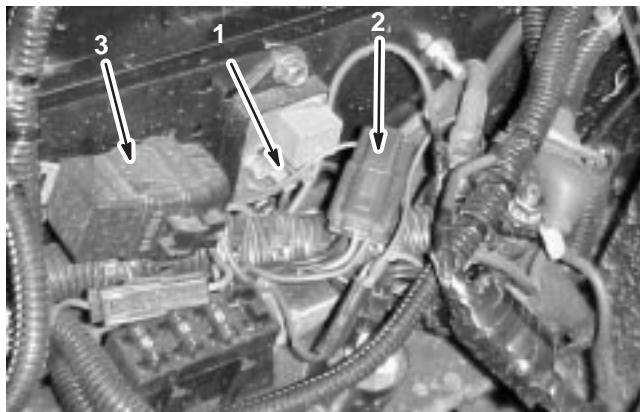

Figure 14
1. Disconnect the brown connector from the old module near the right side of the frame (Fig. 14).
2. Insert the dead connector from the kit into the brown connector to seal it off (Fig. 14).